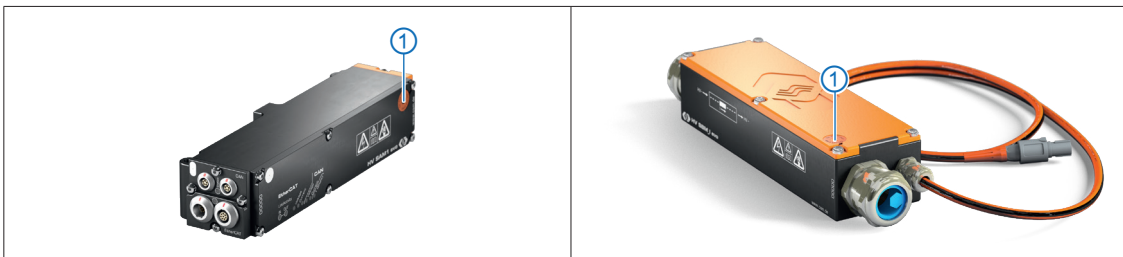

Fig. 4-1: Ventilation openings: HV SAM1 evo (left), HV SBM(L) evo (right)
The modules of a HV BM-Split evo measurement system are equipped with GORE™ membranes (Fig. 4-1), which are required for pressure compensation. To ensure the breathing function of the membranes, the ventilation opening in the lid of the housing (Fig. 4-1, ①) must never be blocked/covered or permanently covered with water or other liquids. There is then a risk of condensation collecting inside the housing and damaging the measurement module.